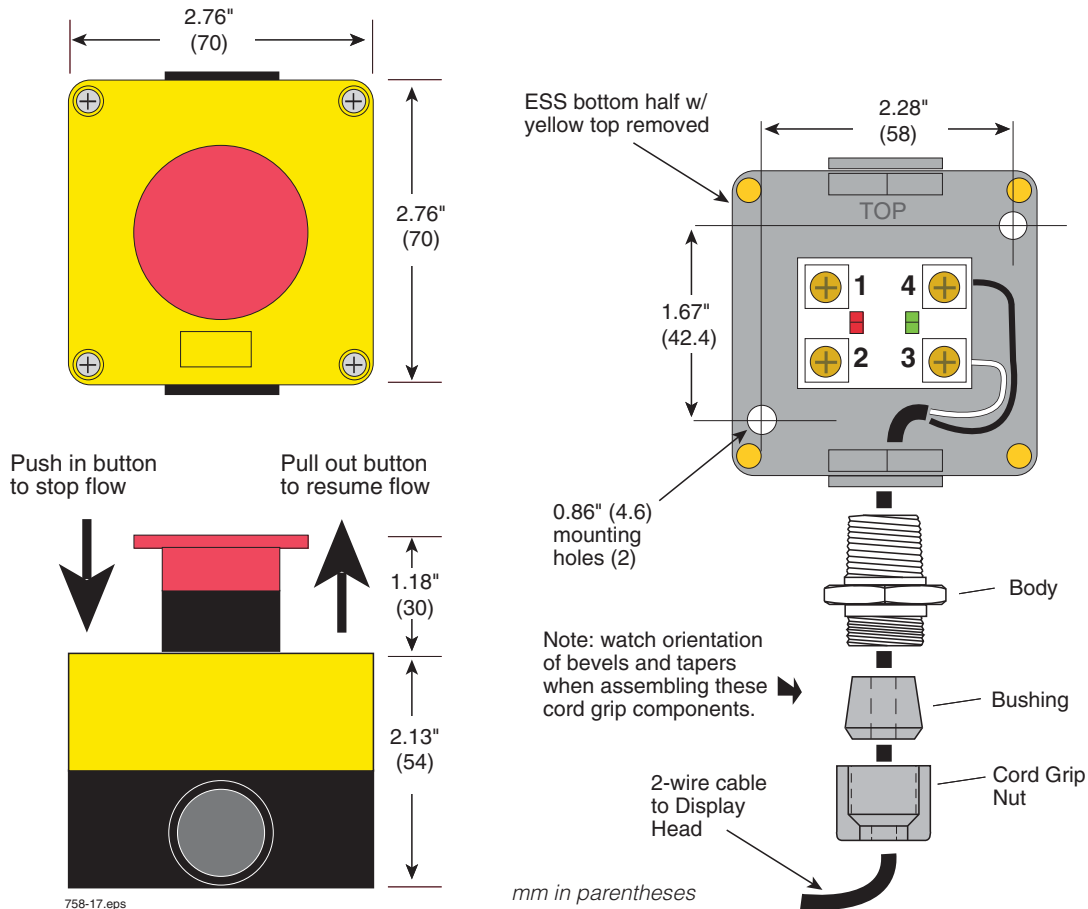

Figure 19. Emergency Stop Switch Mounting And Wiring Diagram
1. If you have the optional ESS switch, you should install it on the truck near the Display Head. There are two 0.181" (4.6 mm) diameter mounting holes in the ESS switch base. Also, you will need a length of 2-wire cable to connect the ESS switch to the Display Head (see Figure 19),
2. Unscrew the yellow top half of the ESS switch and put it and the gasket aside. Push out the bottom knockout in the black bottom half of the switch housing. Mount the bottom half of the switch to the truck in a place that will be quickly accessible during a delivery, using (2) 0.157" (4 mm) screws. Screw the cord grip fitting from the kit into the knockout in the switch's bottom half. Loosen the cord grip nut/bushing and push one end of the 2-wire (black and white) cable through the cord grip fitting and into the switch housing.